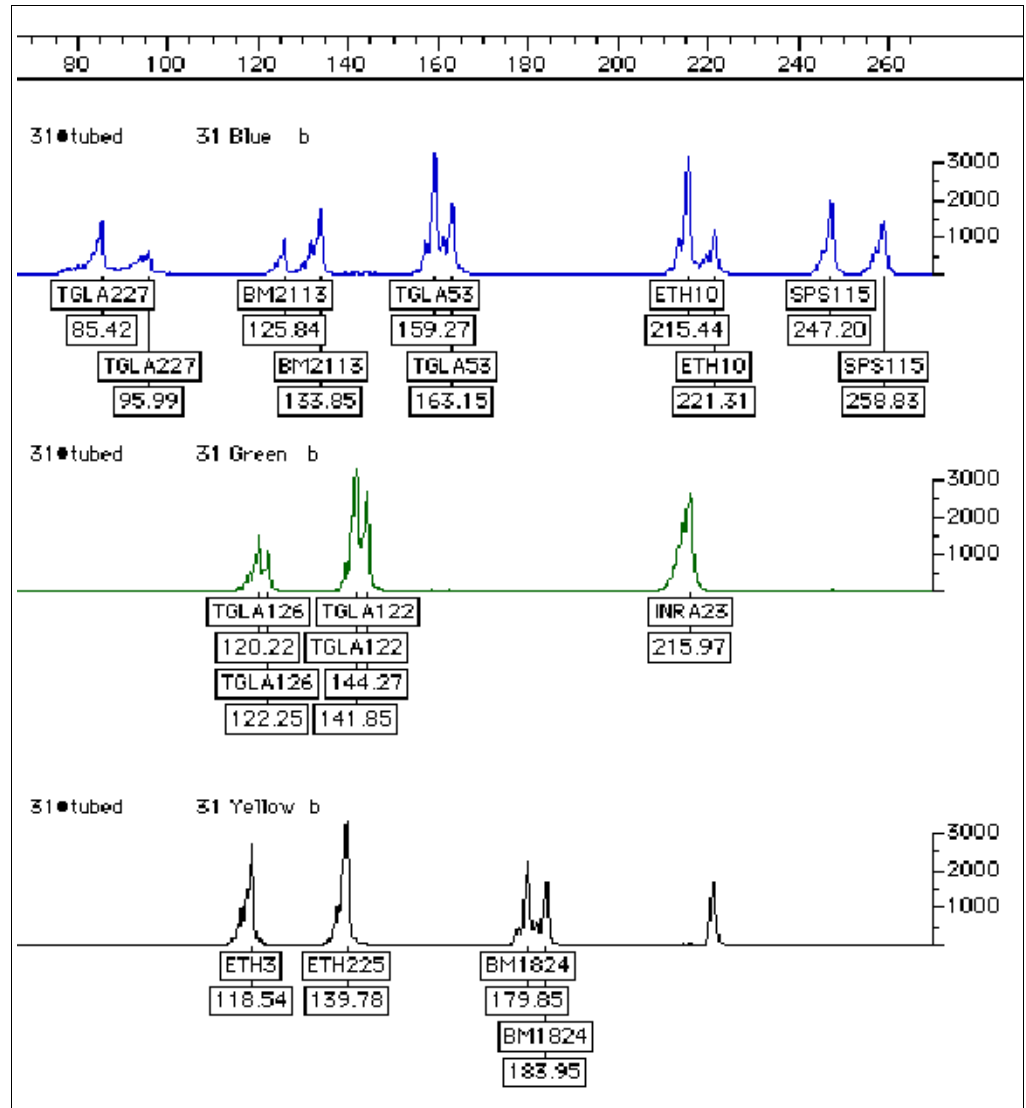

Figure 6 Genotyper™ software analysis of PCR amplification products using bovine control DNA and separated on an Applied Biosystems® 377 DNA Sequencer
- Applied Biosystems® 377 DNA Sequencer (Figure 6 on page 31)